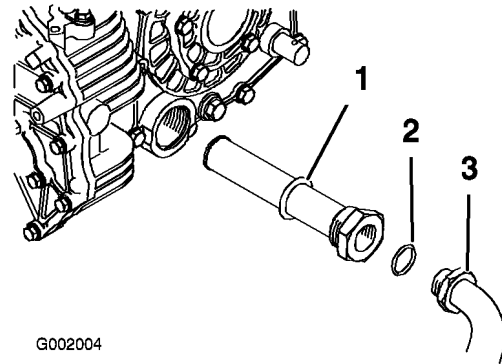

Figure 68
5. Remove the hydraulic hose and 90° fitting (Figure 68).